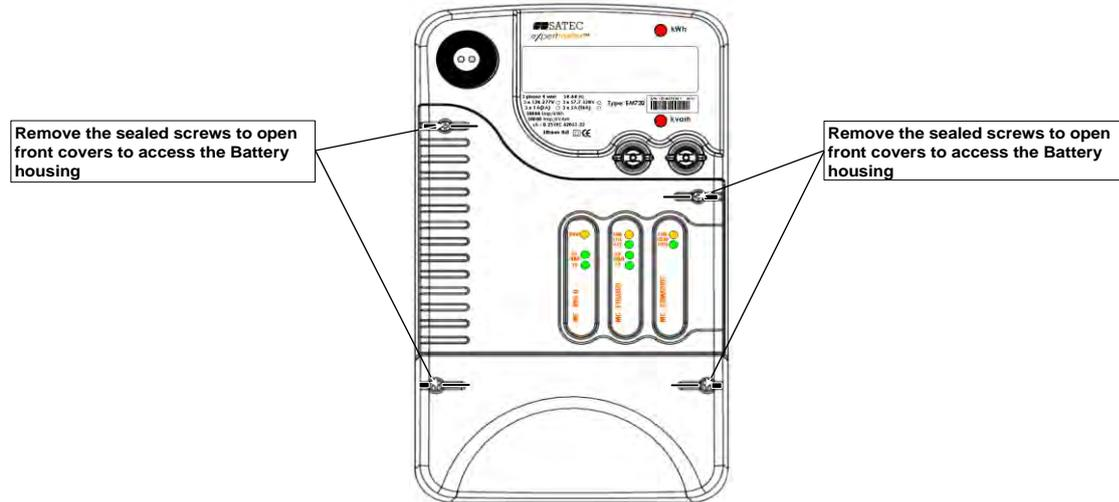

Figure 27: Front covers removing
1. Remove the sealed screws to open the front covers, as in figure 27